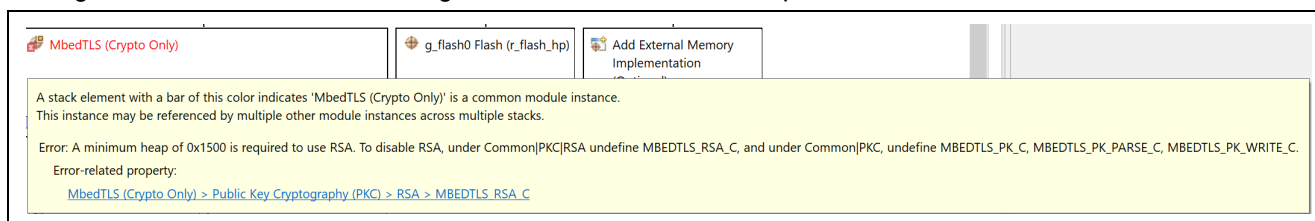

Figure 58. Dependencies of RSA
5. Disable RSA following the prompt in Figure 58. This bootloader design uses ECC for signature generation. Disable the RSA algorithm to save the BSP Heap size.